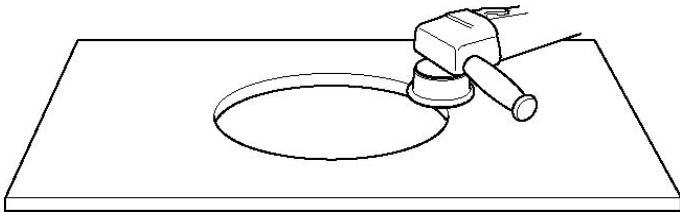

Figure C-6
- Use an orbital sander to smooth the cutout if needed (Figure C-6).